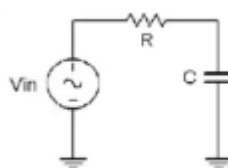

Figure 2: RC Circuit
- Solve the circuitry given in Figure 2 for V_o with given parameters in the Table 2, and fill the "Calculated V_o ", and "Calculated I_o " columns.
- Built the circuitry given in Figure 2 with the R_2 as $1k\Omega$, and C_1 as given values in Table 2.